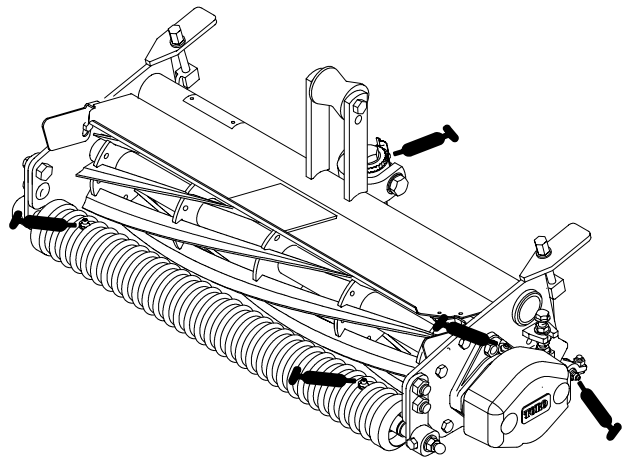

Figure 6
- Bedknife pivot (Fig. 6)
- Reel bearings (2) (Fig. 6)
- Front and rear rollers (2 ea.) (Fig. 6)